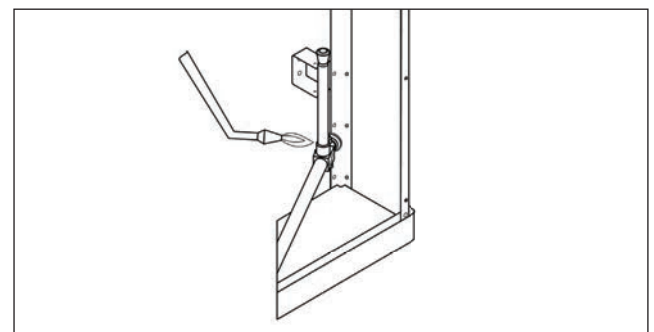

Fig. 11.9
8. Connect the liquid line to the expansion valve (Fig. 11.9).